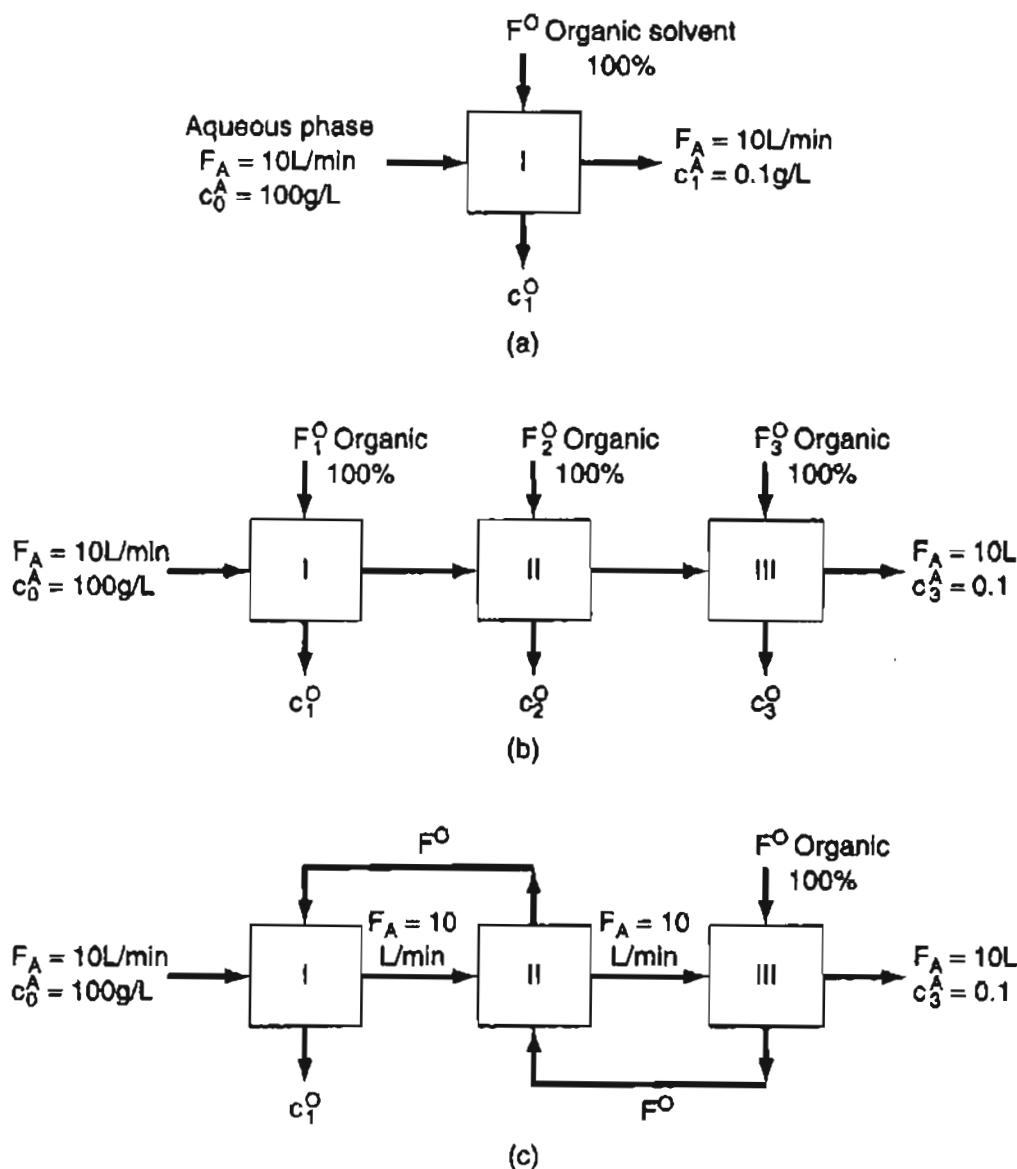

Figure P12.12
- **12.12** This problem is based on the data of G.F. Payne, "Bioseparations of Traditional Fermentation Products" in *Chemical Engineering Problems in Biotechnology*, ed. M.L. Schuler. American Institute of Chemical Engineers, New York: 1989. Examine Figure P12.12. Three separation schemes are proposed to separate the desired fermentation products from the rest of the solution. Ten liters/min of a broth containing 100g/L of undesirable product is to be separated so that the concentration in the exit wastestream is reduced to (not more than) 0.1 g/L. Which of the three flowsheets requires the least fresh pure organic solvent? Ignore any possible density changes in the solutions. Use equal values of the organic solvent in (b), i.e., $F_1^o + F_2^o + F_3^o = F^o$. The relation between the concentration of the undesirable material in the aqueous phase and that in the organic phase in 10 to 1 that is, $c^A/c^O = 10$ in the outlet streams of each unit.